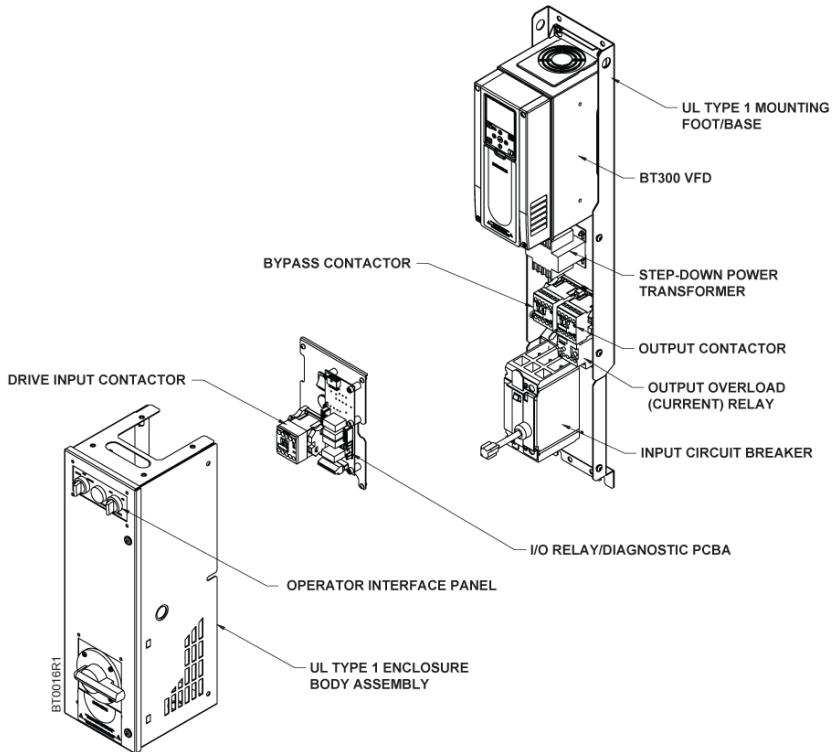

Figure 22. FS4 C-Bypass with Circuit Breaker Components.
- For Conventional Bypass, see Figure 22 through Figure 29.
- See Figure 22 through Figure 29 for Conventional Bypass.